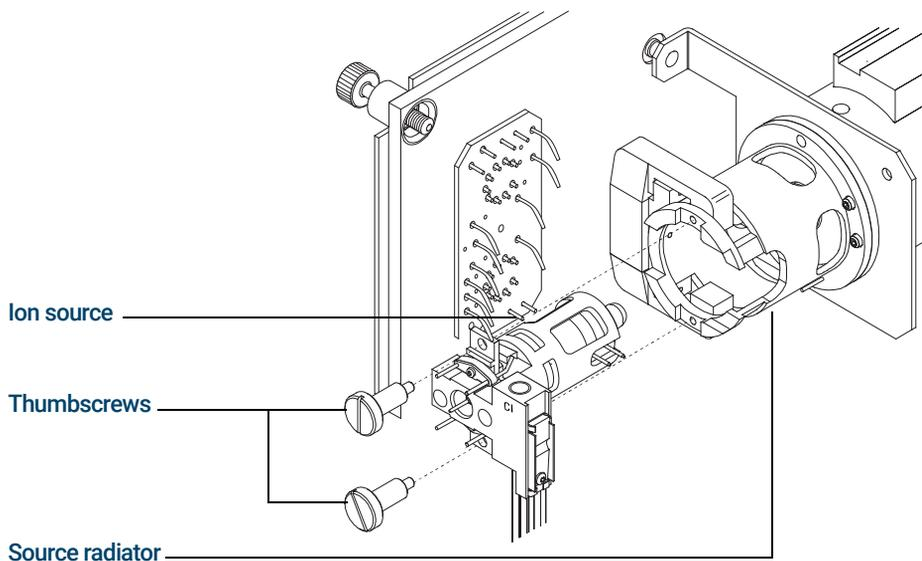

Figure 80. Installing the CI source
- 3 Slide the CI source into the radiator. (See Figure 80.)
- 4 Install the thumbscrews. (See Figure 80.)